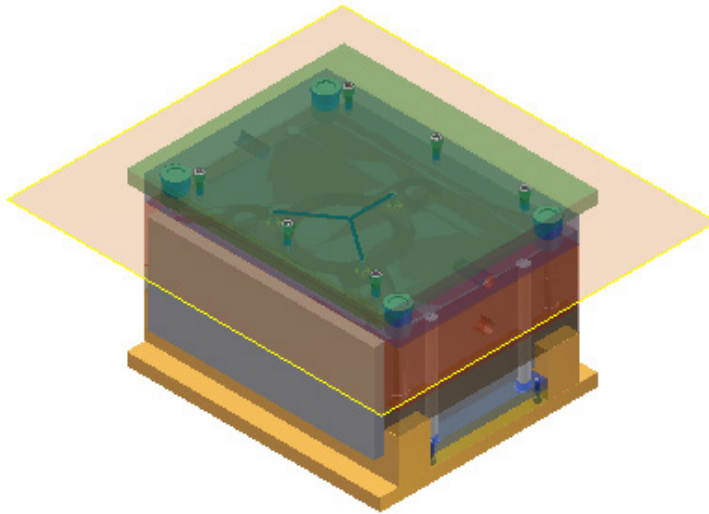

*Figure 19-84 The Mold Base dialog box*
1. Choose the **Mold Base** tool from the **Mold Assembly** panel in the **Mold Assembly** tab of the **Ribbon**; the **Mold Base** dialog box is displayed, as shown in Figure 19-84.